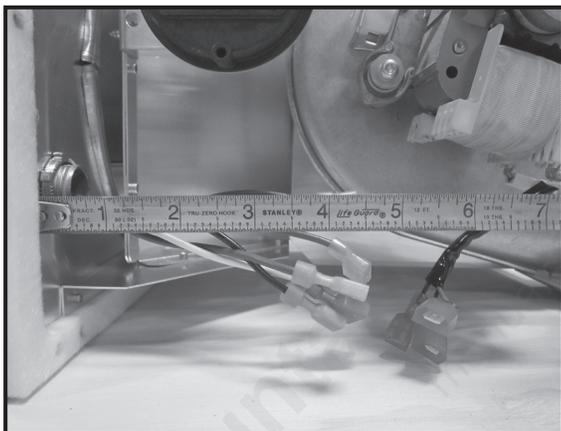

Figure 3.11
**NOTE:** Make sure there is no more than 4 or 5 inches of wire extending through the back cap cover. See Figure 3.11.